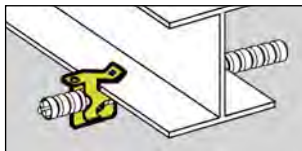

Figure 26 - BX4
- (1) Conduit shall be supported at intervals not exceeding 3 m (10 ft).
- (2) The distance between supports for straight runs of conduit shall be permitted in accordance with Table 344.30(B)(2),
- (3) Exposed vertical risers from industrial machinery or fixed equipment shall be permitted to be supported at intervals not exceeding 6 m (20 ft)
- (4) Horizontal runs of RMC supported by openings through framing members at intervals not exceeding 3 m (10 ft) and securely fastened within 900 mm (3 ft) of termination points shall be permitted. *(See Figure 26)*
(See Figure 26)
- (B) Supports.** Horizontal runs of EMT supported by openings through framing members at intervals not greater than 3 m (10 ft) and securely fastened within 900 mm (3 ft) of termination points shall be permitted. (See Figure 26)
- (B) Supports.** Horizontal runs of ENT supported by openings in framing members at intervals not exceeding 900 mm (3 ft) of termination points shall be permitted. (See Figure 26)